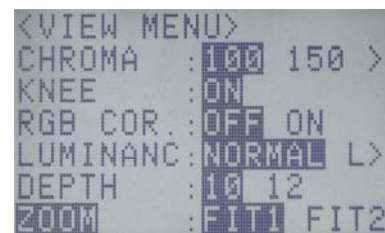

Figure 3-70 ZOOM(VIEW MENU)
- 2) Use the arrows   to select "ZOOM" from the VIEW MENU. (Figure 3-70)